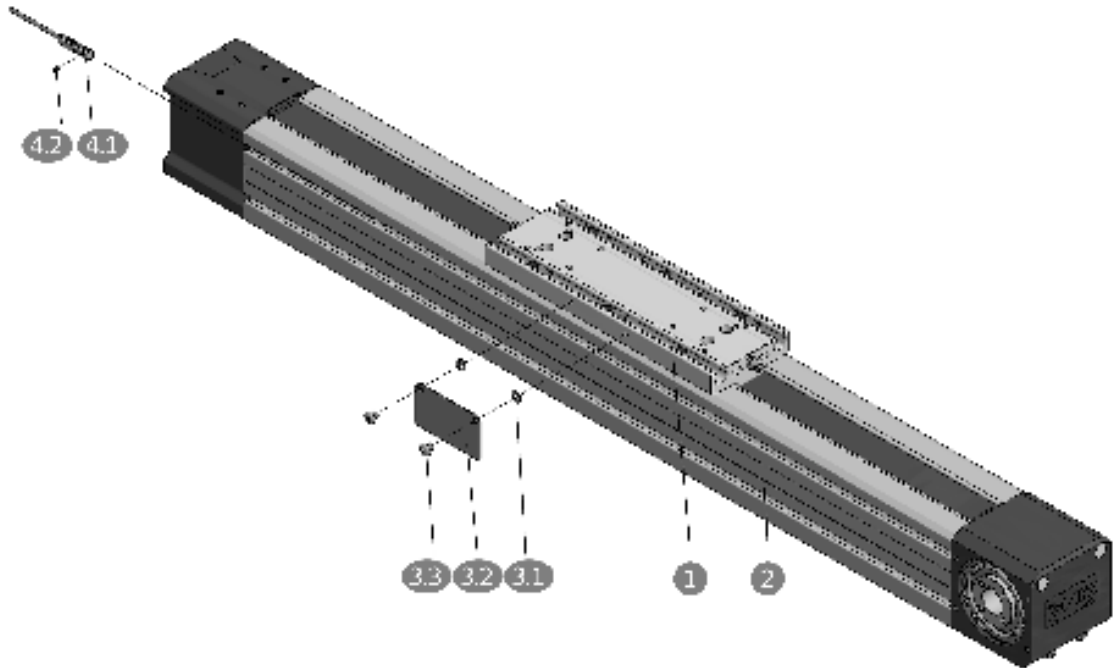

Figure 3.13 __ Mounting of inductive proximity switches for groove installation
As an alternative to the limit switches described in Chapter 3.12.1, the linear axes AXE60, AXE80 and AXE100 may also be equipped with inductive proximity switches for groove installation. The mounting of the limit switches and the actuating element must be carried out in the following steps according to Figure 3.13. For this switch version, table ① and the profile ② of the linear axis are also symmetrically designed, to allow mounting on both sides is possible.